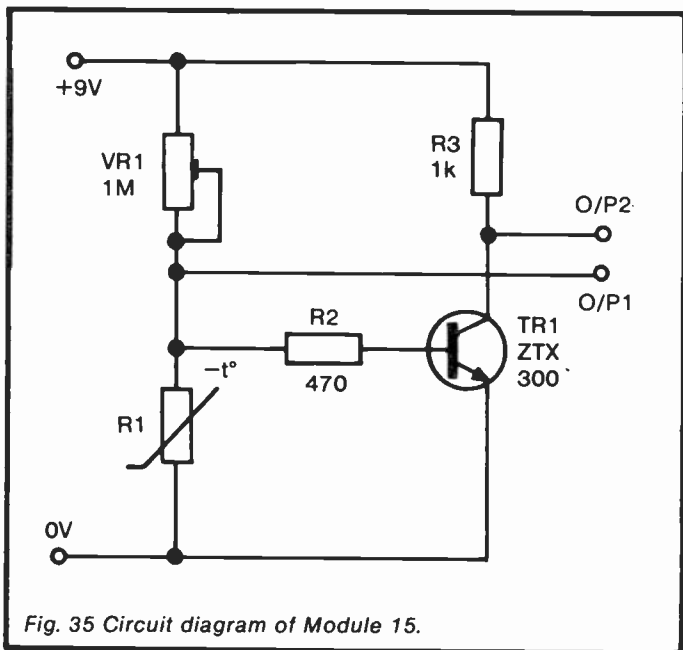

Fig. 35 Circuit diagram of Module 15.
**Circuit diagram:** see Figure 35.